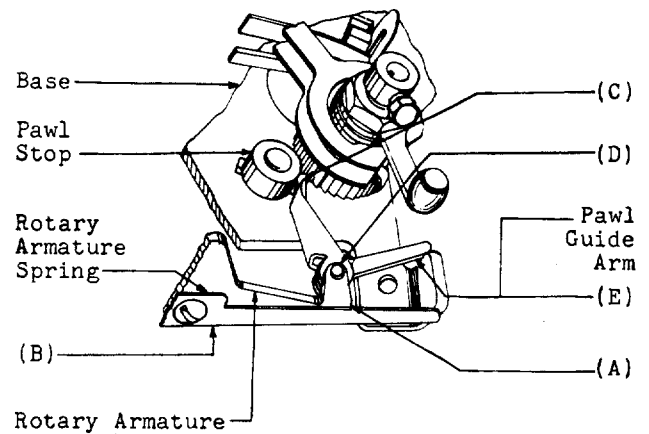

Fig. 11—Rotary Armature Spring Position
- (a) **Fig. 11(A):** The rotary armature spring shall clear the end of the armature with the armature in every position.
- (b) **Fig. 11(B):** The lower edge of the spring shall be approximately parallel to the main surface of the base.
(a) **Fig. 11(C):** The edge of the pawl shall engage the radial surfaces of the ratchet teeth approximately flat.
(b) **Fig. 11(D):** The pawl shall not bind on its bearing or on the base.
2.22 Pawl Spring Tension: Fig. 11(E)—The pawl spring shall hold the pawl guide arm against the base with a pressure of
2.23 Pawl Guide Arm Position: Fig. 11(E)—With the wiper springs on the first bank contact and as the rotary armature is operated manually, there shall be a clearance of